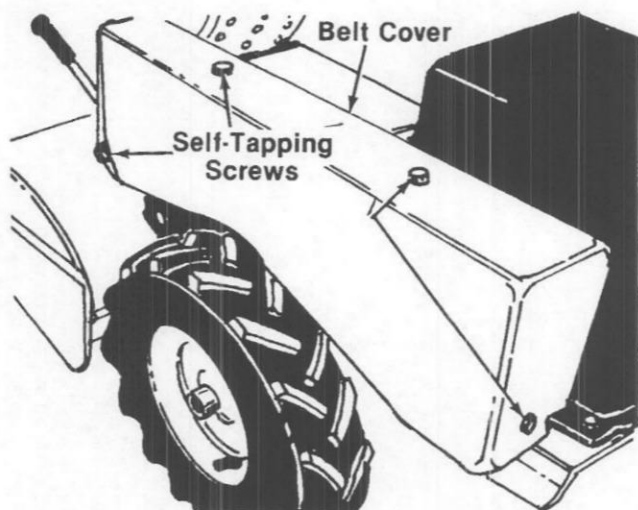

FIGURE 25.
1. Remove belt cover by removing the four self-tapping screws and flat washers. See figure 25.